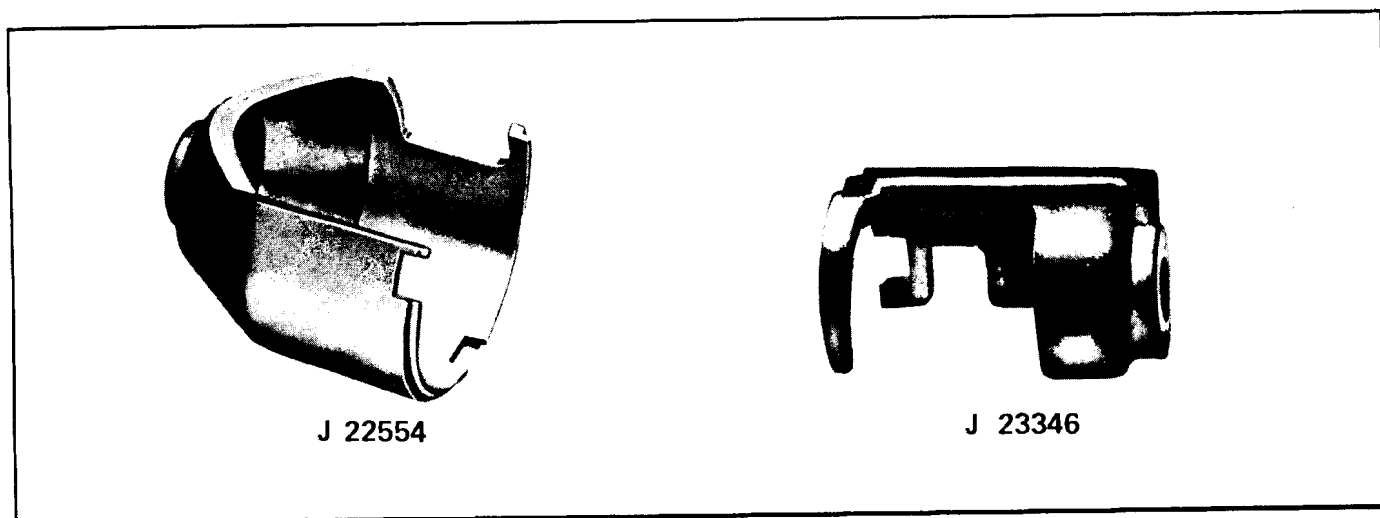

Fig. 8-38 Special Tools
3. Remove tank gage unit by using tool J 22554 on B and F Series or tool J 23346 on A, G and X Series (Fig. 8-38).
3. Remove tank gage unit by using tool J 22554 on B Series or tool J 23346 on A Series (Fig. 8-38).